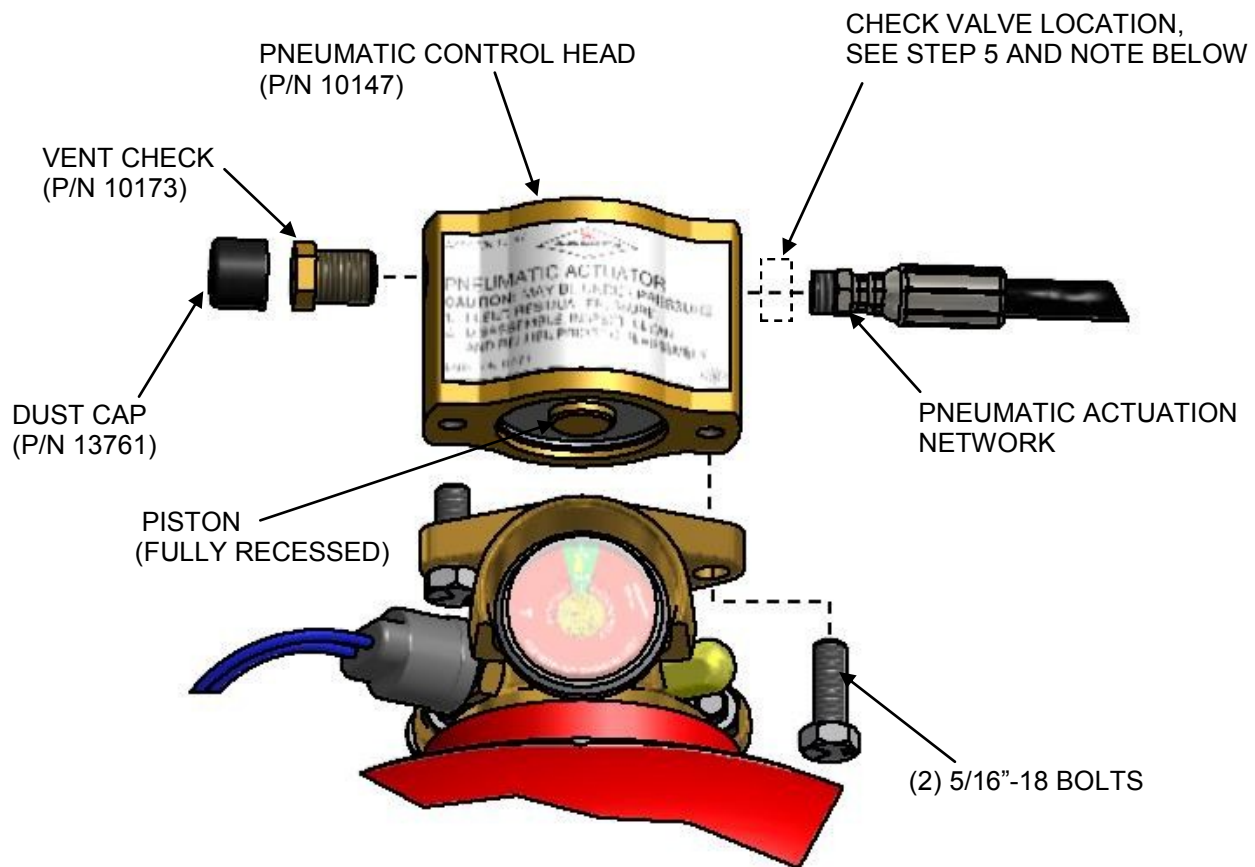

Figure 4.6.3
4. Install (2) bolts retained from step 1 as shown. Use medium grade thread locking compound and torque to 10 ft-lbs.
5. Install 1/4" NPT Pneumatic Actuation Network (See Section 4.7). Use PTFE thread tape. Tighten a minimum of two turns past hand tight. For Pneumatic Control Heads using a Pneumatic Piston Assembly with locking Spring Plunger, a Check Valve is not required (See Note under Figure 4.6.3).
NOTE: Earlier versions of Pneumatic Control Heads (P/N 10147) were NOT equipped with a locking Spring Plunger on the internal Pneumatic Piston Assembly (See Figure 6.2.1.1). When using these older versions, a Check Valve (P/N 10262) is required at the inlet of EVERY Pneumatic Control Head used in an Amerex Dry Chemical System where shown in Figure 4.6.3. The only way to verify that a newer version control head is being used, which contains a locking Spring Plunger, is to perform the test described in Section 6.2.1.1, Step 16. If the locking Spring Plunger exists and locks the deployed piston when performing the test, no Check Valve is required at the control head inlet.